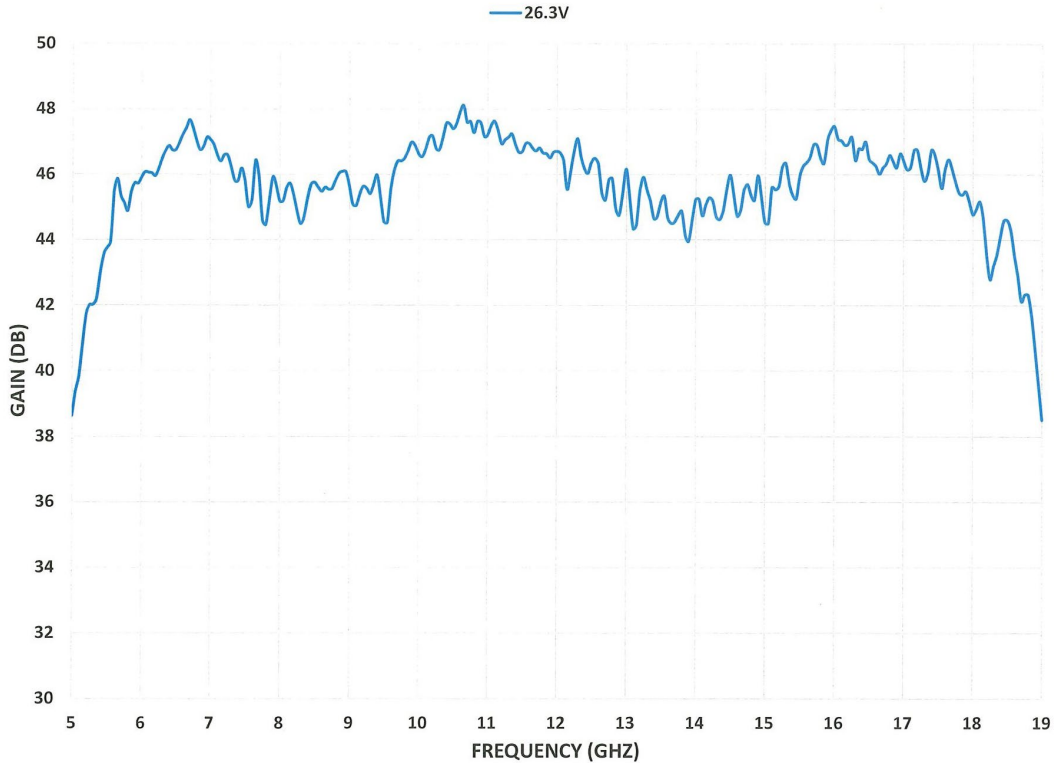
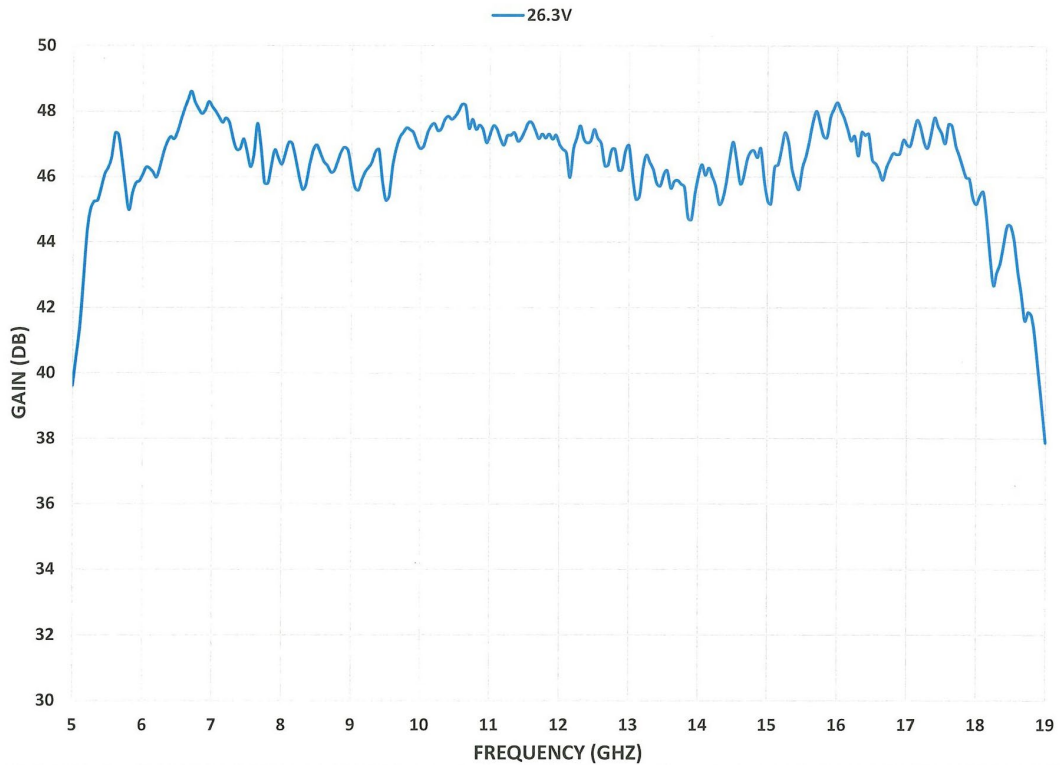

Figure 4-1. Typical Gain Response @ 0dBm input
Figure 4-2 Typical Gain Response @ -20 dBm Input
- 7. The Model 20S6G18A-L's typical gain response at 0dBm input and -20dBm input is shown in Figures 4-1 and 4-2. The actual gain may vary considerably from that shown in Figure 4-1, but should be ≥ 43.5 dB. Figure 4-2 should be ≥ 44.0 dB.